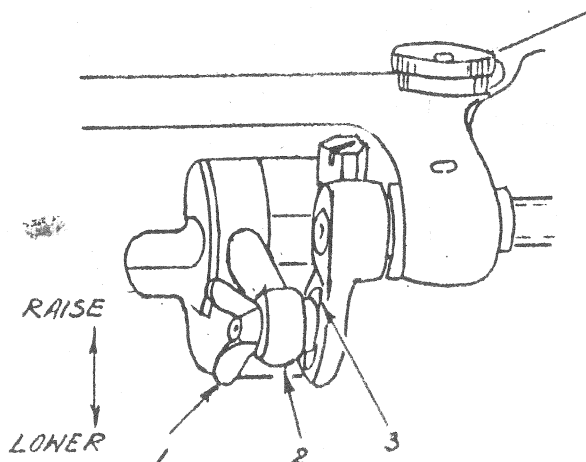

FIG. 8
To alter lift, loosen wing nut (1) Fig. 8 and move the link and stud assembly (2) along the slot (3) - move up to raise the feeding presser foot and push down to lower this foot. Tighten wing nut upon completion of adjustment.